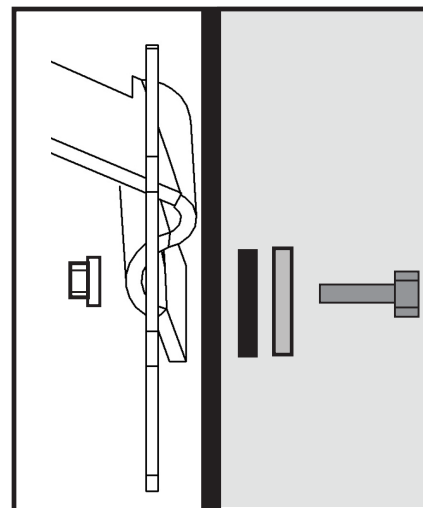

FIG. 3
Secure both handle assemblies (H) to pre-drilled holes on sides of drum (D) using Hex Head Bolt (H2), Flat Washer, (H4), Rubber Washer (H5), and Nylock Nut (H3) as shown in FIG 3.